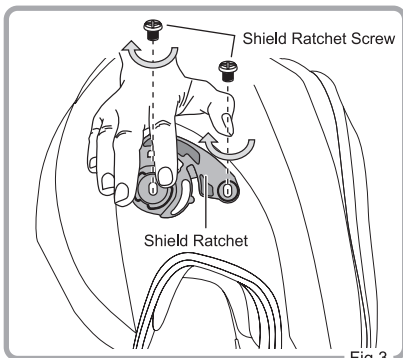

Fig.3
3.Fasten both Shield Ratchet Screws clockwise securely. Repeat the same procedure on the other Shield Ratchet. Then the Shield Ratchets are installed (Fig. 3).